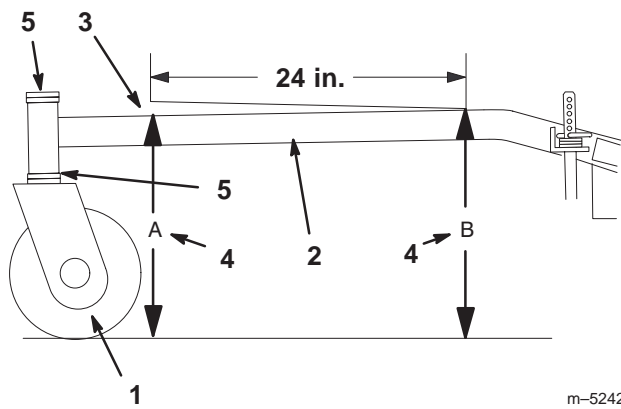

Figure 52
1. Measure out 24 inches on the carrier frame (Fig. 52).
2. Measure carrier frame height at location **A** (Fig. 52).
3. Measure carrier frame height at location **B** (Fig. 52).
4. The height at location **A** must be a 1/4–3/8 in. lower than location **B** (Fig. 52).
5. If the carrier frame is not correct, move caster spacers to make it a 1/4–3/8 in. pitch (Fig. 52). Move spacers from top or bottom to make the correct pitch.